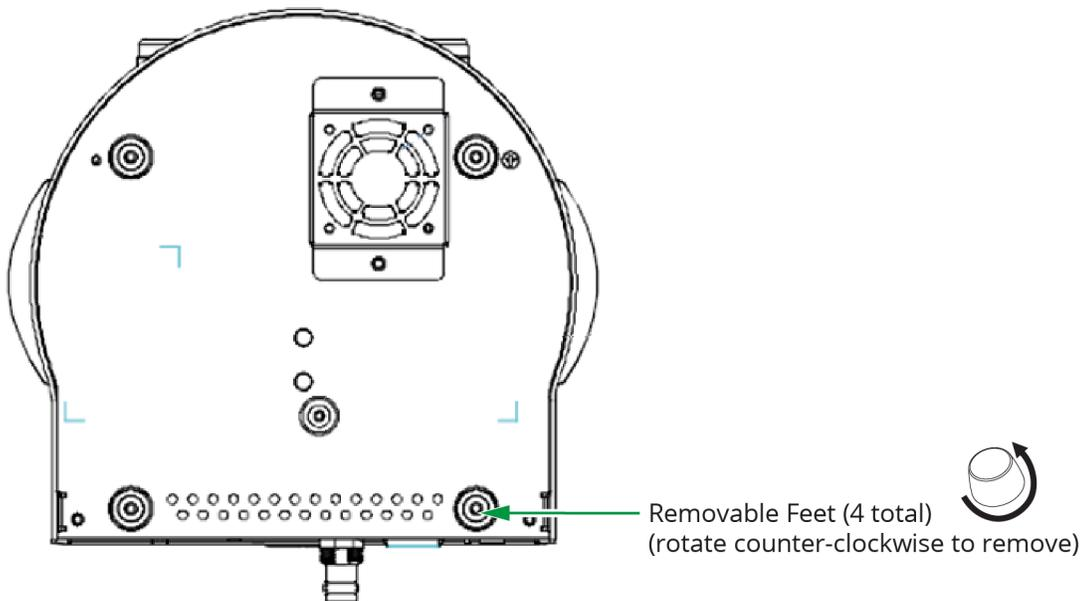

Figure 15 - Bottom View of Camera, showing Removable Feet (4pcs)
1. Remove the feet (4 pcs) from the bottom of the camera by rotating them counter-clockwise (Figure 15).